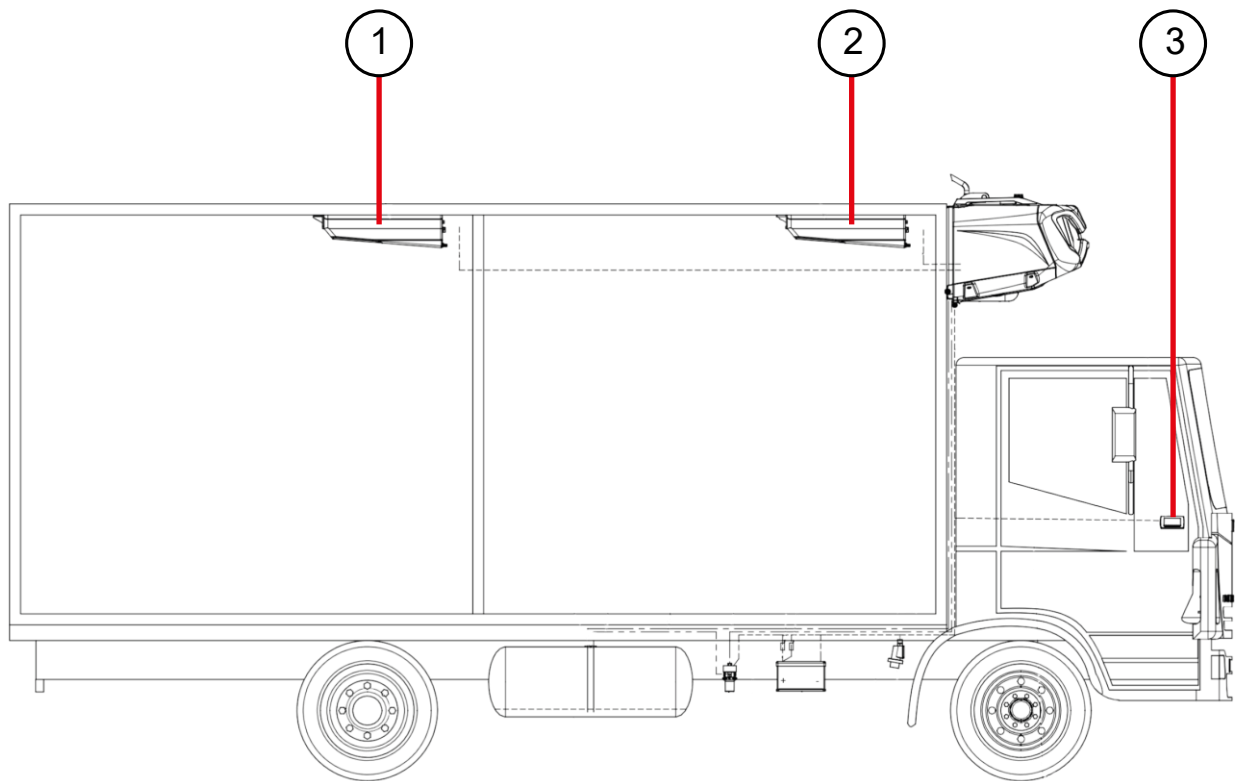

Figure 6 - Multi temperature unit evaporators
The Multi temperature unit allows the management of two compartments at a different temperature. The unit is equipped with two evaporators (1 and 2, Figure 6) and a dedicated in-cab controller (3), which manages the two temperatures independently of each other. The heating function is also included in the operating logics.